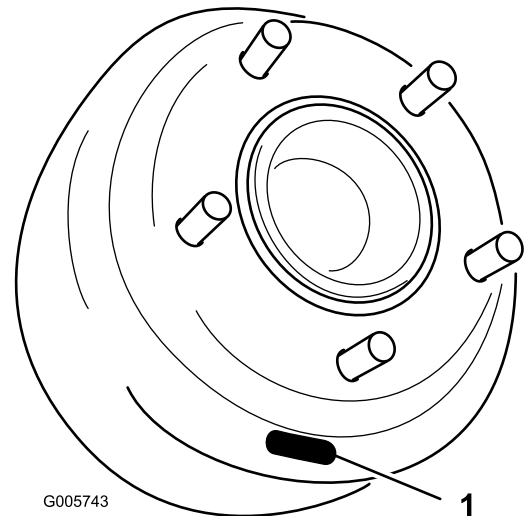
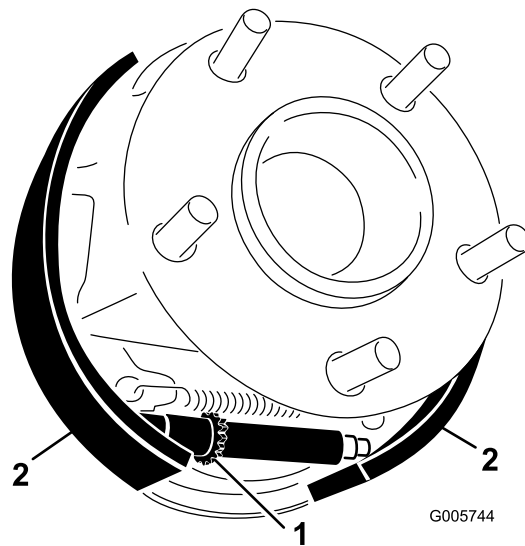

Figure 61
Figure 62
bottom and centered over star nut that adjusts brake shoes (Figure 61).
6. Using a brake adjusting tool or screwdriver, rotate star nut (Figure 61) down until brake drum (Figure 62) locks because of outward pressure of brake shoes (Figure 62).